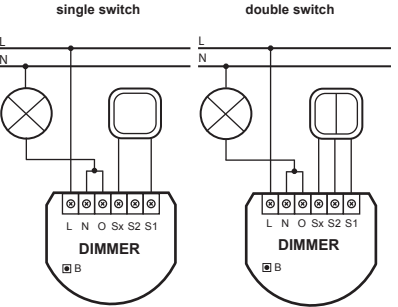
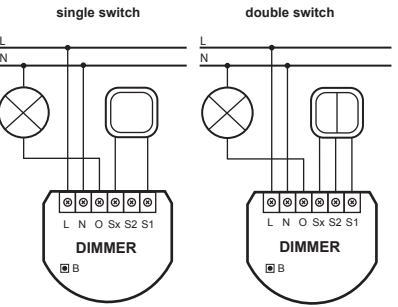

Fig.1 Wiring diagram for connecting the Dimmer - 2-wire connection
Fig.2 Wiring diagram for connecting the Dimmer - 3-wire connection
4. Arrange the antenna (tips are presented below diagrams of fig. 1 and 2)
Connect the device in accordance with the wiring diagram presented in Fig. 1. or Fig. 2. Switch on the mains voltage of 230V.